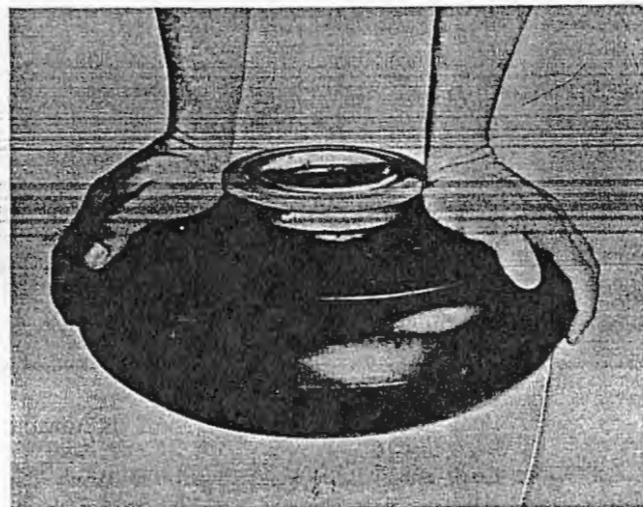

Figure 2-77. Installation of Rim Locking Pin
- Depress tire and place small half of split hub assembly on hub and insert lock ring and safety pin (figure 2-77).